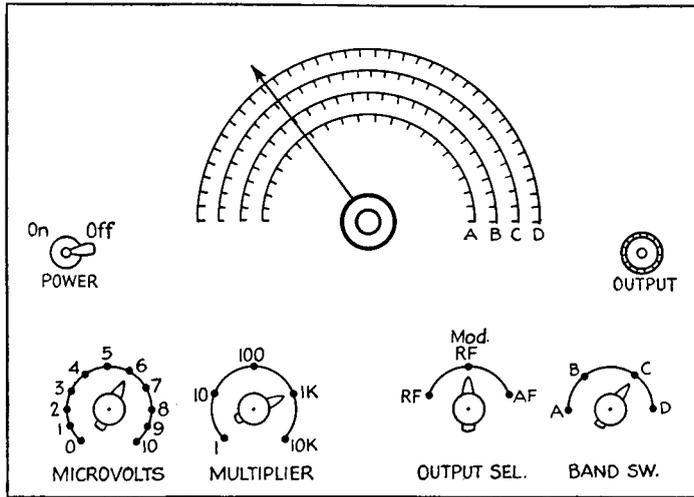

FIG. 6-3. Front panel, showing controls of a typical signal generator.
**A typical signal generator.** To get a better understanding of the various signal generators in existence today, it might help to synthesize a typical front panel of such an instrument and study its controls. Of course, there probably is no generator that has this exact make-up. Figure 6-3 shows the signal generator that would be constructed. On the left center is found the **POWER** switch to energize the signal generator when it is to be used. On the right center is the **OUTPUT** jack from which the various outputs for application to various test points in the receiver are taken.
into bands. The complete swing of the tuning dial will therefore cover only one band. Four distinct bands are shown in our typical signal generator. They are labeled A, B, C, and D, each with a different range. Figure 6-3 shows band C chosen for coverage.
The output level is controlled by the two dials marked MICROVOLTS and MULTIPLIER. The first of these controls gives the number of microvolts from 0 to 10. It is usually a potentiometer control. The second is a 5-point switch for a step attenuator and determines by what value to multiply the reading from the MICROVOLTS dial to get the output level. The multiples shown are 1, 10, 100, 1K (1,000), and 10K (10,000). For example, the reading shown in Fig. 6-3 would be  $6 \times 1K$ , or 6,000 microvolts. The caution given in the previous section about the true value of this reading should be kept in mind.